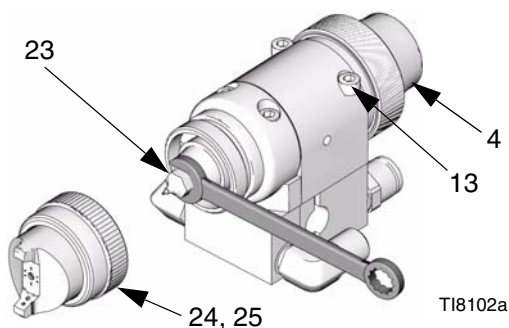

FIG. 19
2. Unscrew the four screws (13) and remove the gun from the manifold.
3. Remove the air cap retainer (25) and air cap (24). See FIG. 19.